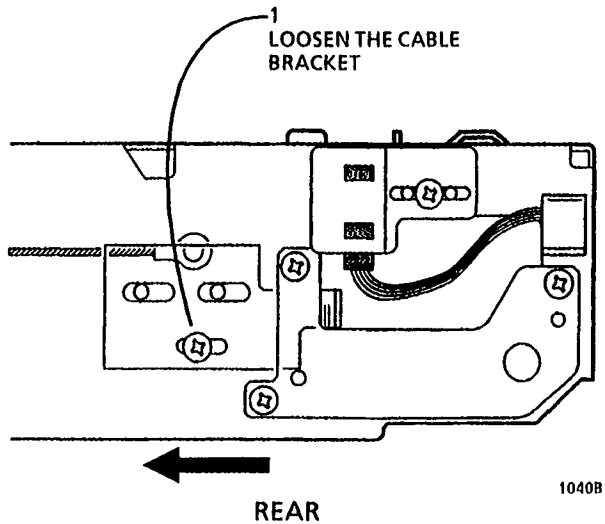

Figure 1. Relieving the Optics Cable Tension
3. (Figure 1): Relieve the Optics Cable tension.